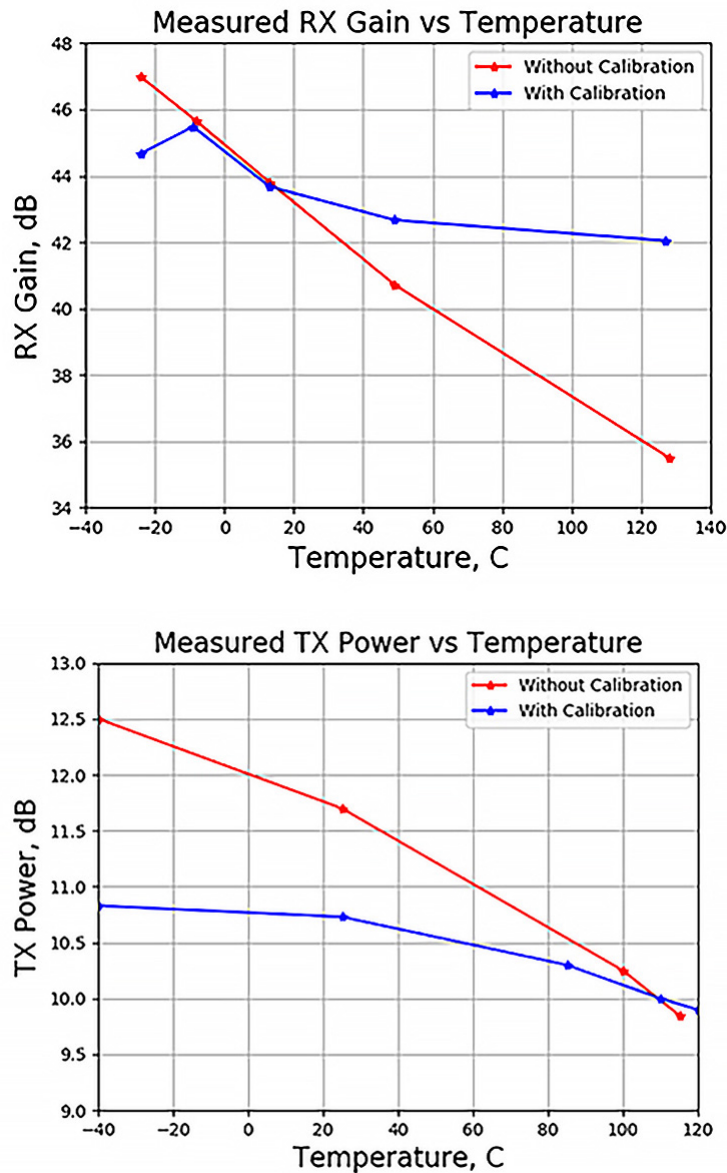

Figure 3. RX Gain (a) and TX Power (b) over Temperature
A millimeter-wave (mmWave) sensor's receiver (RX) sensitivity, gain, input noise and even output transmitter (TX) power can all vary with temperature. In Figure 3, the host processor attempts to mitigate the effect of temperature changes by adjusting circuit configurations periodically during run time to maintain RX gain and TX power close to the configured settings.